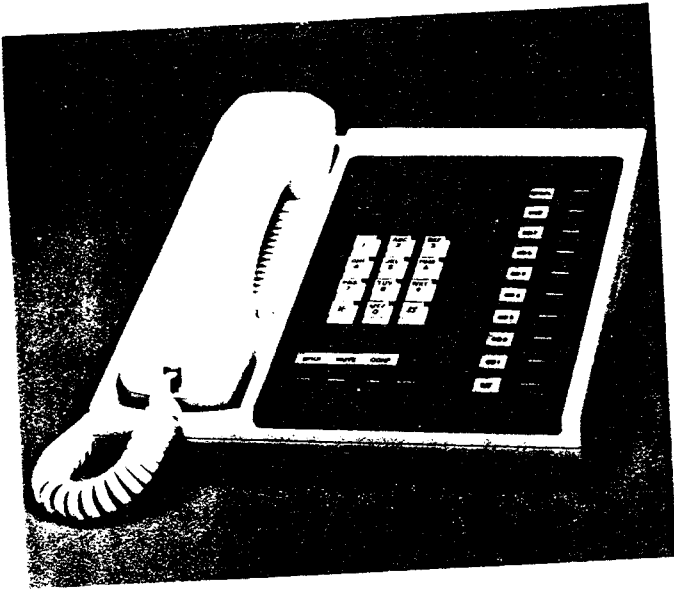

FIGURE 32—10-key EKT
09.03 Software assignment permits the 10-key EKT (Figure 32), having the same dimensions as the 20-key EKT, to be alternately assigned to any station (with the exception of station 17). This 10-key EKT has full access to seven CO/PBX lines and can receive transferred calls on the other lines.